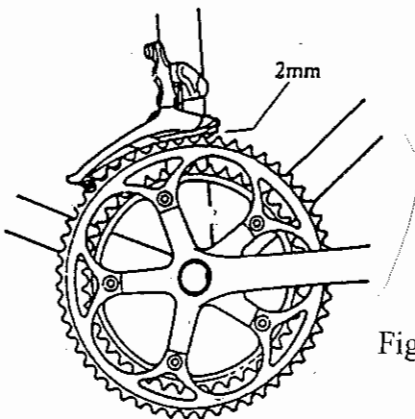

Fig. 1
- B. Height setting: Set outside plate of changer 2-3mm of clearance over outside sprocket (see fig.1).
- C. Set outside plate of changer parallel with chainrings (see fig.1).